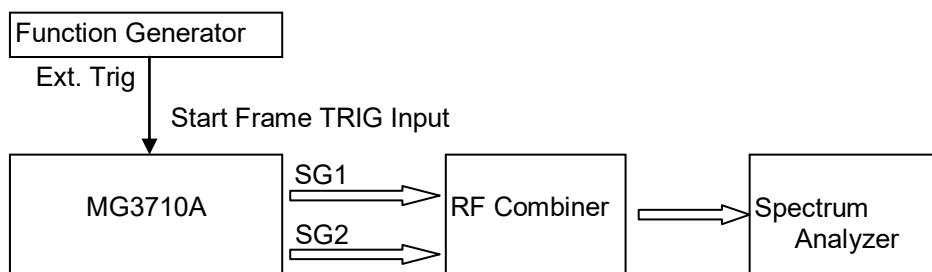

Figure 7.3.15-2 Phase Synchronization/Timing Synchronization Adjustment
When synchronizing several MG3710A units, connect them as shown in items 1 to 4 of Figure 7.3.15-1 Sync Multi SG Composition and set Sync Type, Number of Slaves, Slave Position, and LO Sync at each SG.